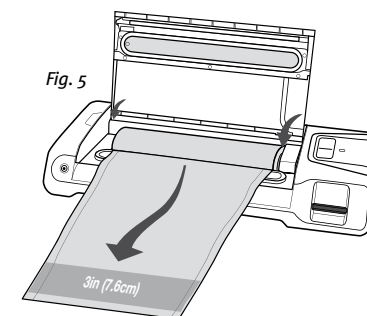

Fig. 5
5. Pull out desired bag length, Close Appliance Lid, and slide Bag Cutter across the roll. Make sure you leave 3" of space at top for room to vacuum seal. (Fig.5)